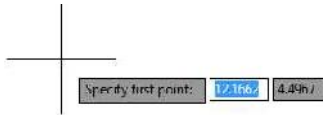

FIGURE 2.5: Both the command prompt and the cursor change to reflect the current command.
- From the Ribbon, choose the Home tab > Draw panel, and then click the Line tool. Look at both the bottom of the command-line interface and your cursor. Because Dynamic Input is turned on, prompts such as this one display both at the command line and next to the cursor (see Figure 2.5).